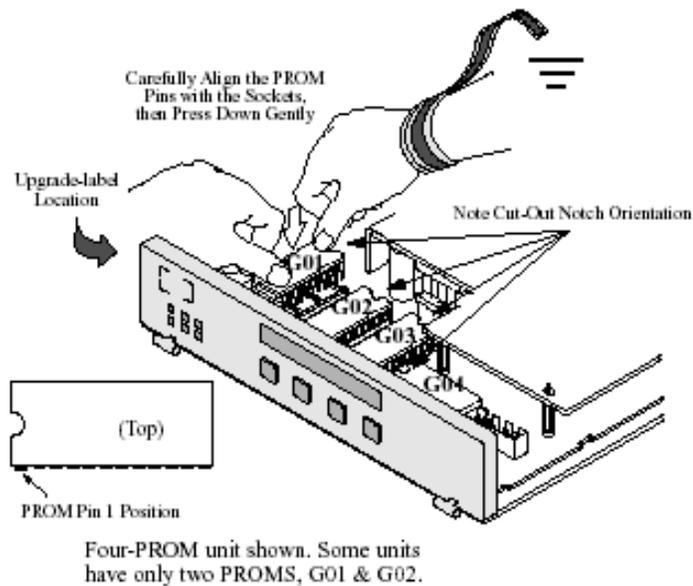

Figure 4
- c. Press gently, with equal pressure on both sides, until all pins are seated in the socket. (Figure 4).